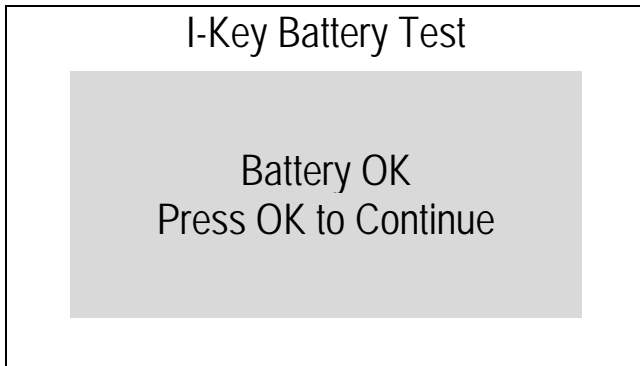
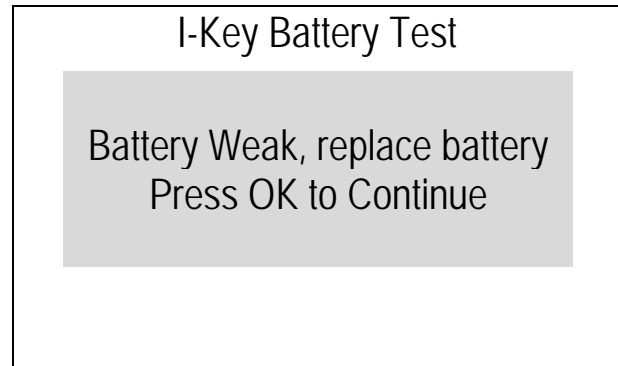

Figure 8
Figure 9
8. When step 7 is complete, the message in Figure 8 or Figure 9 will display.